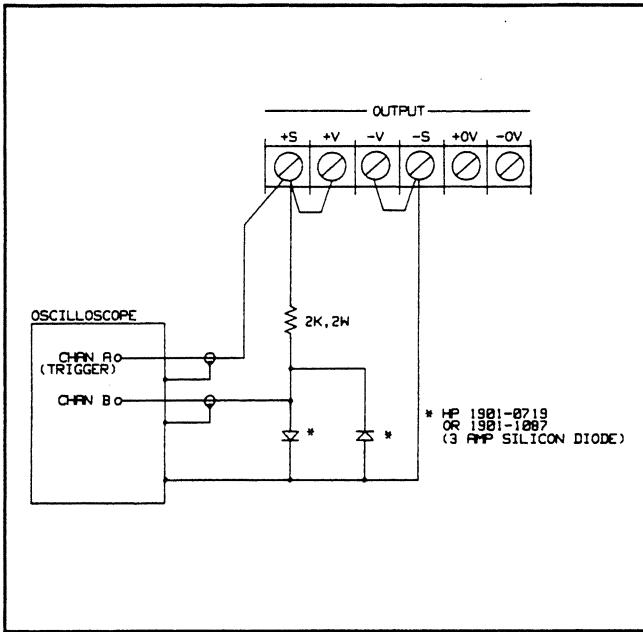
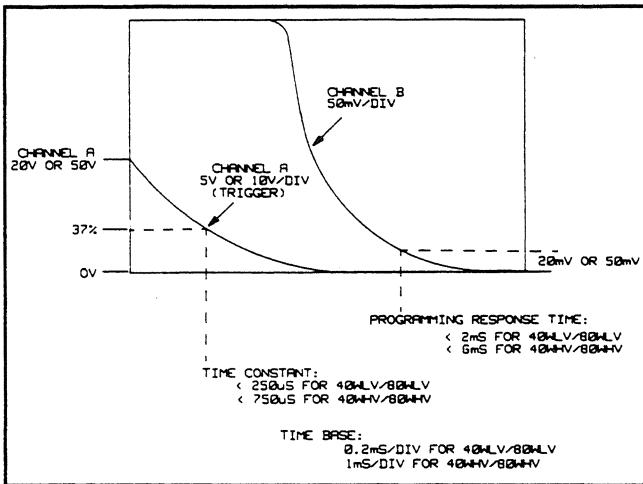

Figure 3-4. Down Programming Speed Test Setup
Figure 3-5. CV Down Programming Speed Test Waveforms
- Turn off the supply and connect the output to be tested as shown in Figure 3-4.
- On Channel A, observe the output voltage transition from the High Range Full Scale Voltage to the scope's bottom horizontal line. Look for a smooth exponential waveform with no "kinks" or aberrations. Perform a time constant check by insuring that the output voltage falls to about 37% of the High Range Full Scale in less than 250 μ sec. (40WLV/80WLV outputs) or 750 μ sec. (40WHV/80WHV outputs). Refer to the Channel A waveform shown in Figure 3-5.
h. Now observe Channel B on the oscilloscope while maintaining the trigger on Channel A as in step f. Note that the diode clamp, used in the test setup of Figure 3-4, prevents gross overload of Channel B (which is set at 50 mV/div) allowing examination of the "tail" of the exponential waveform. The output voltage should be within 20 mV of its final settling value on the bottom horizontal line in less than 2 msec for 40WLV/80WLV outputs and within 50 mV in less than 6 msec for 40 WHV/80 WHV outputs. Refer to the Channel B waveform shown in Figure 3-5.